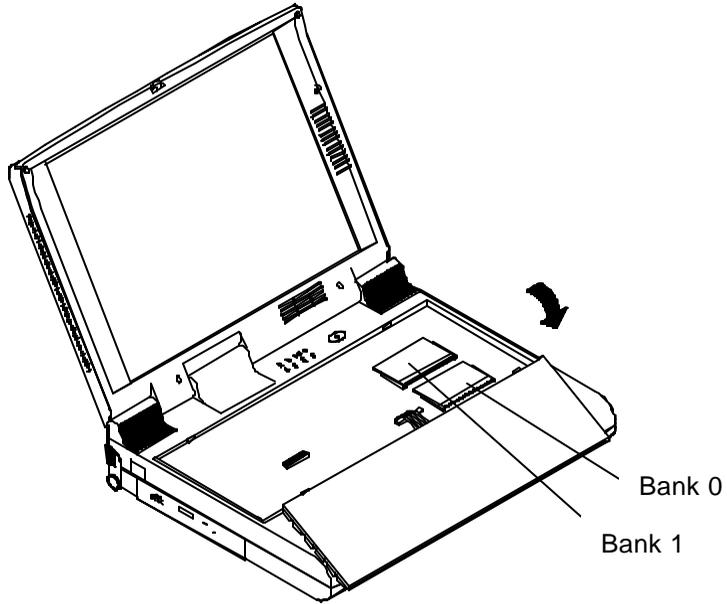

Figure 2-8
3. Carefully lift the keyboard assembly out so that the mainboard is exposed (Figure 2-8).
3. Carefully lift the keyboard assembly out so that the mainboard is exposed. Locate the memory sockets (Figure 2-8).
3. Carefully lift the keyboard assembly out to expose the mainboard. Locate the memory sockets (Figure 2-8).